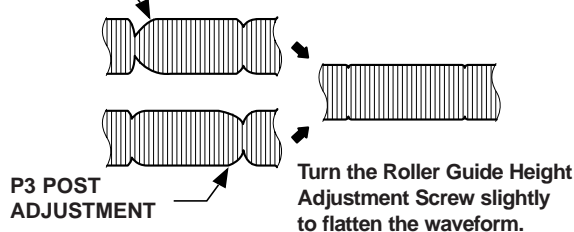

Fig. C-4-2
- 3) Height Adjustment Screw : Flatten the RF Waveform. (Fig. C-4-2)